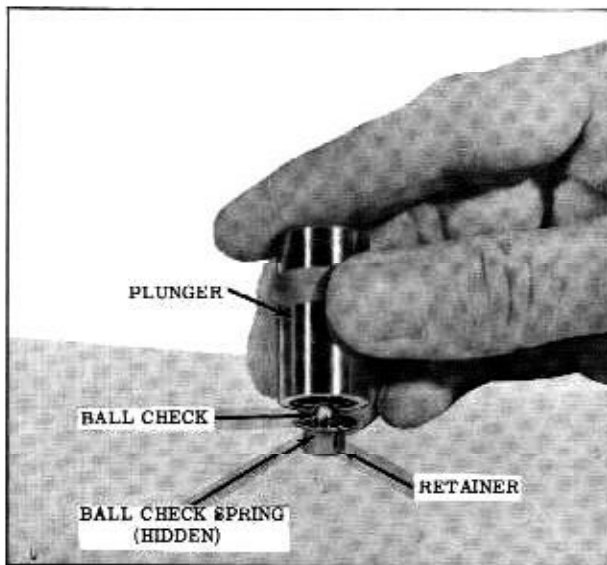

Fig. 8-17 Assembling Retainer in Plunger
2. Assemble ball check, spring and retainer into plunger. (Fig. 8-17) Make sure retainer flange is pressed tight against bottom of recess in plunger.